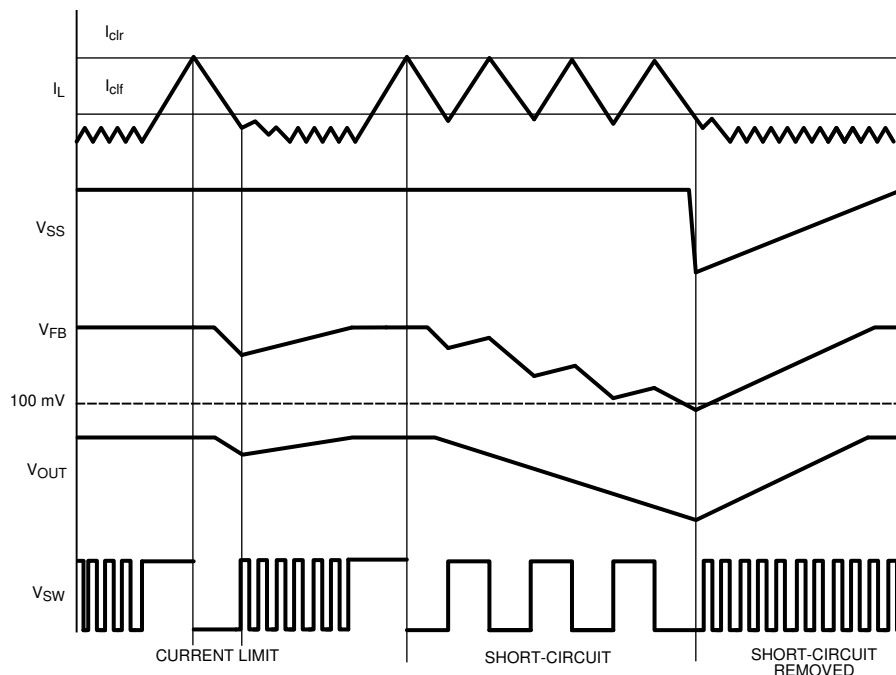

图 7-1. Current Limit Conditions
A current limit condition will cause the internal soft-start voltage to ramp downward. After the internal soft-start ramps below the feedback (FB) pin voltage (nominally 0.6 V), FB will begin to ramp downward, as well. This voltage foldback will limit the power consumption in the device, thereby protecting the device from continuously supplying power to the load under a condition that does not fall within the device SOA. After the current limit condition is cleared, the internal soft-start voltage will ramp up again. 图 7-1 shows current limit behavior with V_{SS} , V_{FB} , V_{OUT} , and V_{SW} .